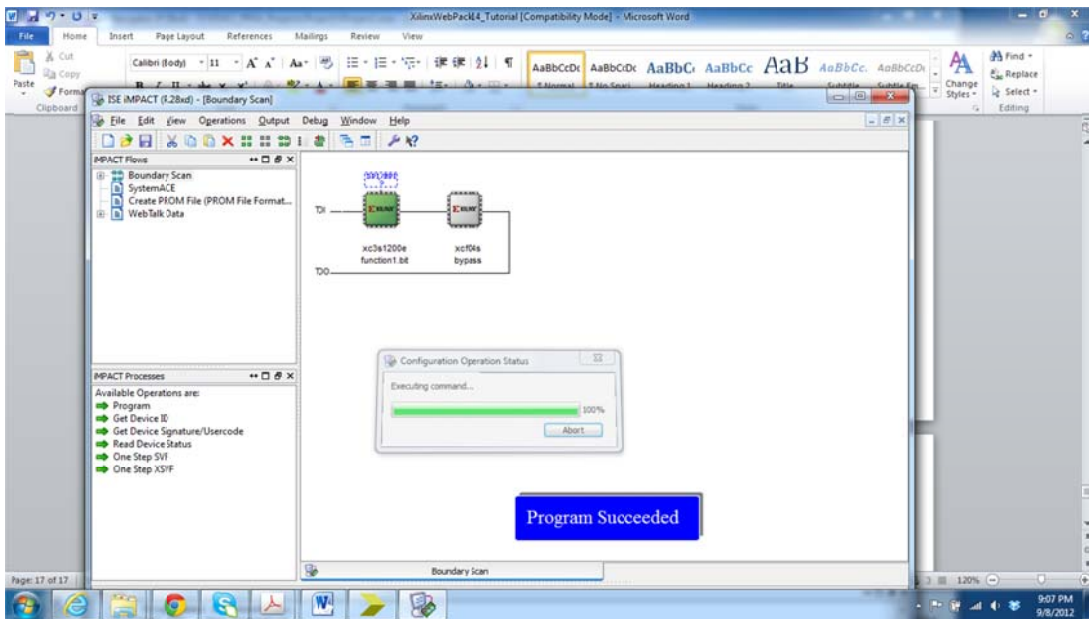

Figure 18B
18. Then, you need to choose the FPGA chip that has the number **XC3S1200E**, Click Apply → **OK**. This is shown in Figure 18B. Click on the FPGA until it becomes **GREEN**, then right click and Choose **Program**. And if your program is well implements on the board, you will get a **successful program**.